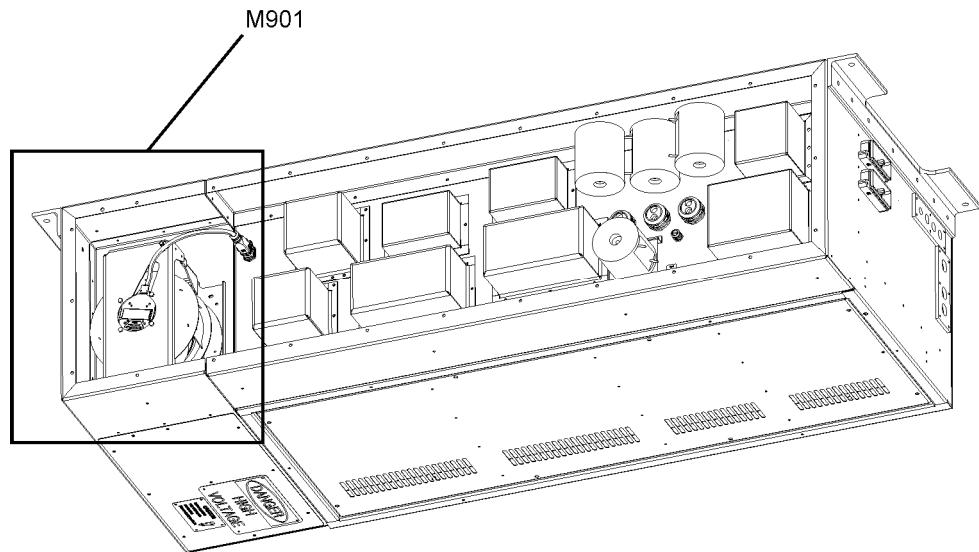

Figure 5-71: Location of M901
3. Locate M901. See Figure 5-71 for the location of the M901.